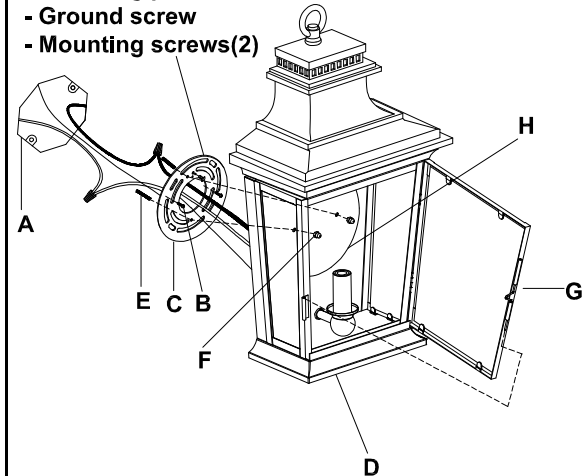

Fig. 2
CONNECTING THE WIRES (Fig. 2)
5. Connect the electrical wires as shown in Fig.2. Making sure that all wire connectors are secured. If your outlet box has a ground wire (green or bare copper), connect the fixture's ground wire to it. Otherwise, connect the fixture's ground wire directly to the circular strap using the green screw provided.